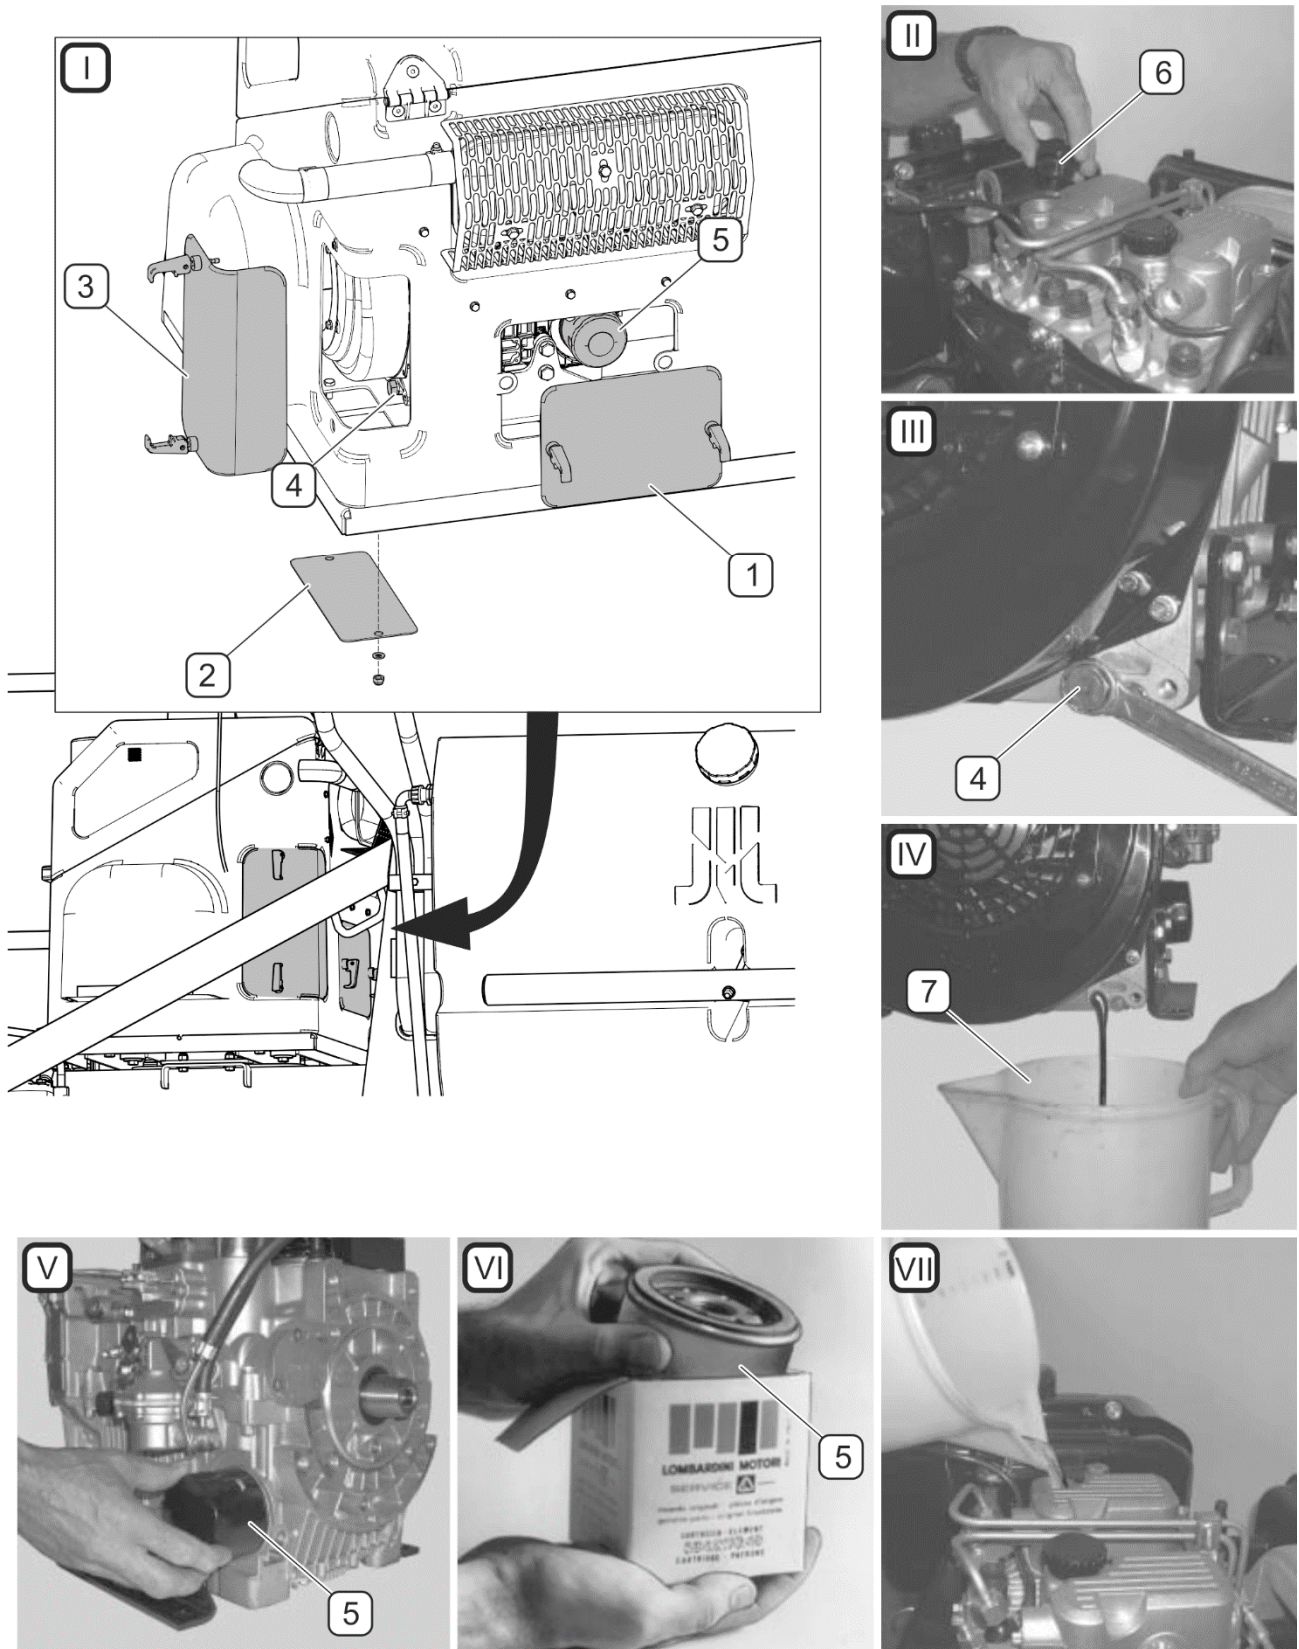

FIGURE 5.3 Change of engine oil and engine oil filter
- Remove covers (1,2,3) (FIGURE 5.3).
- Unscrew filler plug (6), unscrew oil drain plug (4) and drain oil to previously prepared container (7).
- Remove contaminations from the filter area on the engine block and unscrew contaminated filter (5).
- Confirm that the gasket is correctly placed in the filter, apply a small amount of oil to the gasket and tighten the new oil filter manually (5).
- Install a new sealing ring and tighten oil drain plug (4).
- Fill the engine with recommended new oil through oil filler to recommended level and tighten the filler plug (6).